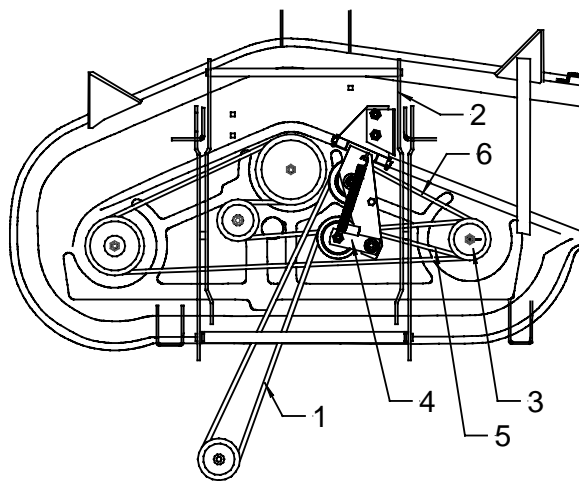

Figure 4
2. Install the collector drive belt by routing it under the linkage to the top pulley of the blade spindle and around the front idler "V" pulley (fig. 4).
3. Route towards the back to the top of the double jackshaft pulley mounted on the tractor's left side axle (fig. 4).
4. Slide a large screwdriver or a pry bar, in the tube welded on the flat idler arm and pull forward to release the idler tension and at same time route the V-belt around the flat idler pulley (fig. 4).
5. Be sure the belt is routed properly before starting the mower (fig. 4).